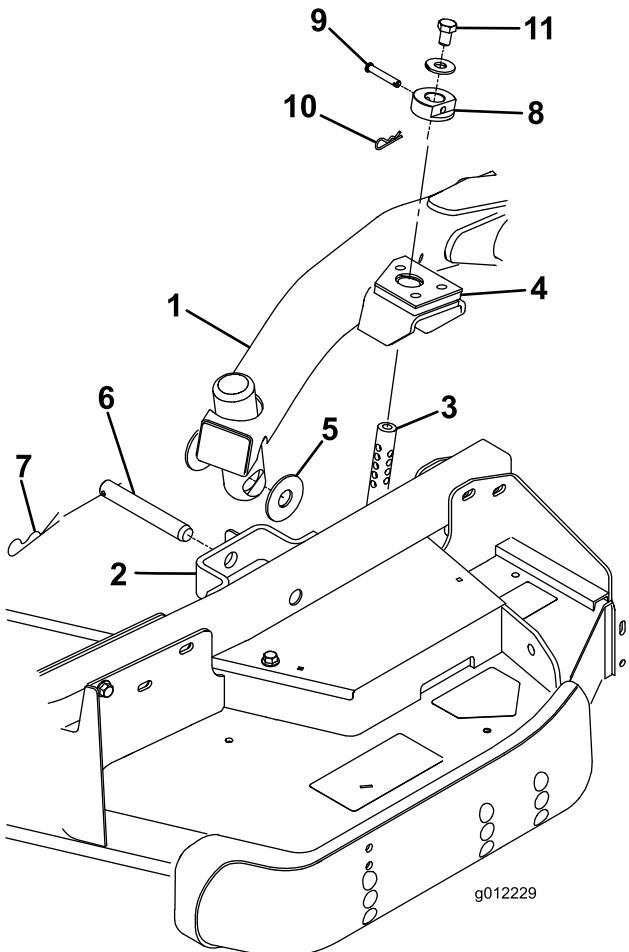

Figure 28
4. Move the lift lever to the Float position. Push a lift arm down until the holes in the lift arm line up with the holes in the castor arm bracket and the height of cut rod can be inserted into the lift arm pads (Figure 28).
the thrust washers between the lift arm and the castor arm bracket (Figure 28). Insert end of cotter pin into the slot in the castor arm tab to retain cotter pin.
9. Install the height of cut collars onto the height of cut rods and secure with the clevis pins and hair pin coppers (Figure 28). Head of clevis pin to be positioned toward the front of the deck.
10. Install a 1/2 x 3/4 inch bolt and a washer to top of each height of cut rod (Figure 28).